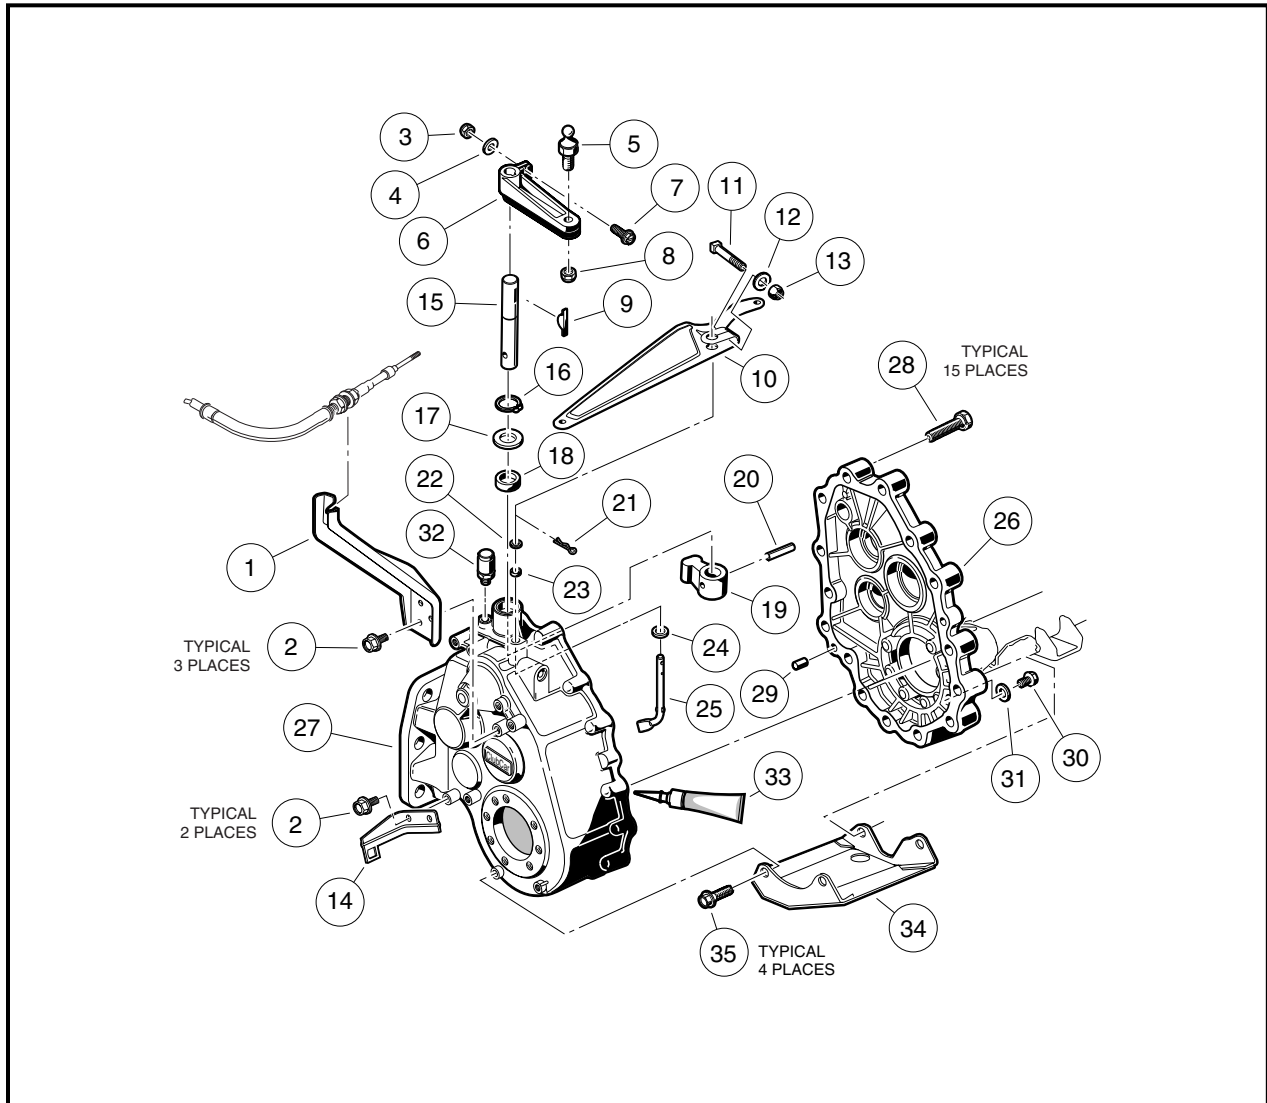

Figure 6-5 Transaxle Gear Casing and Brackets
4. Remove the four bolts (35) and remove the guard (34) (**Figure 6-5, Page 6-4**).
5. Remove the fifteen bolts (28) that hold the transaxle housing together (**Figure 6-5, Page 6-4**).
- 13.1. Use snap ring pliers (0.047 tip) to remove the retaining ring (16) on the shifter shaft (**Figure 6-5, Page 6-4**).
14. Remove the breather (32) from the case (**Figure 6-5, Page 6-4**).
- 15.1. Remove the cotter pin (21) and flat washer (22) from the pivot arm (25) (**Figure 6-5, Page 6-4**).
- 15.3. Use a small chisel or similar pointed instrument to pry the pivot arm oil seal (23) (**Figure 6-5, Page 6-4**) out of the case (**Figure 6-11, Page 6-6**).